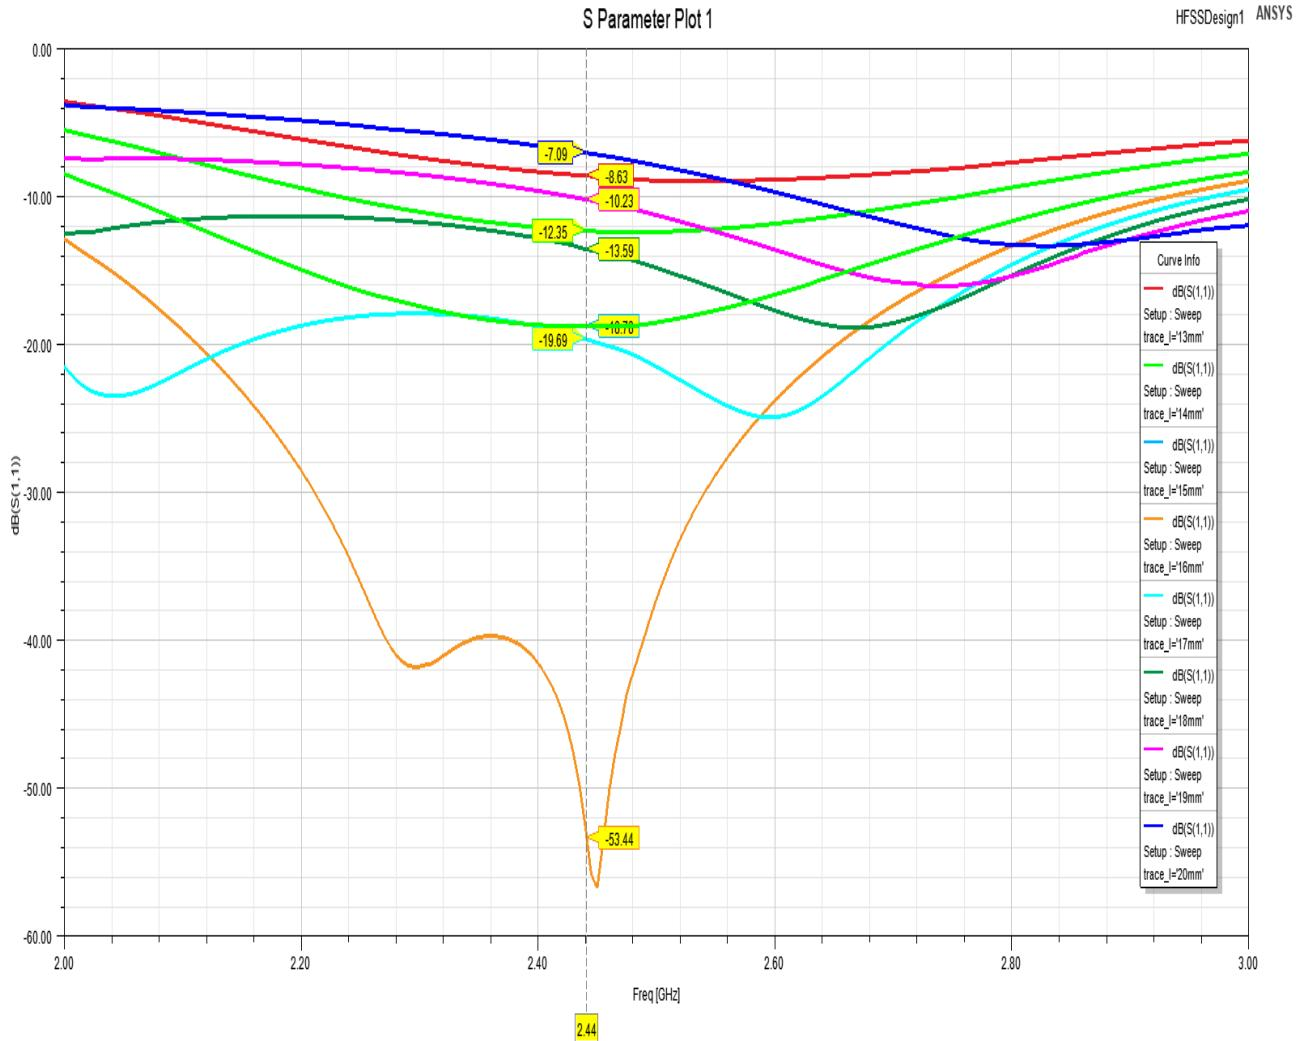

Figure 13. trace_I Parameter Plot
- trace_I Parameter Plot (Figure 13)